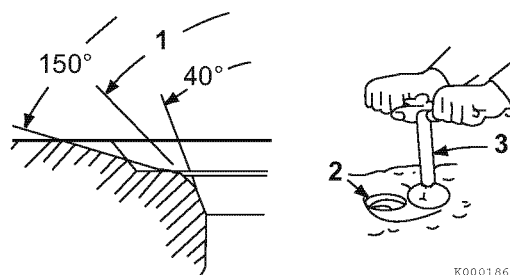

Figure 6-25
Light cutting can be performed by the use of a hand-operated cutter (**Figure 6-25, (3)**).
The valve seat diameter can be adjusted by top-grinding with a 150° stone to make the seat diameter smaller, and bottom-grinding using a 40° stone to make the seat diameter larger. Once the seat location has been corrected, grind and lap the seat angle (**Figure 6-25, (1)**) to specification. See *Cylinder Head* on page 6-4 for specifications.